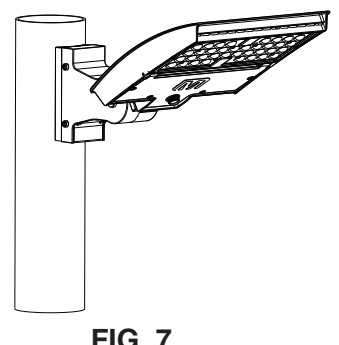

FIG. 7
5. Inspect installation to ensure the fixture is secure (see **FIG. 7**).